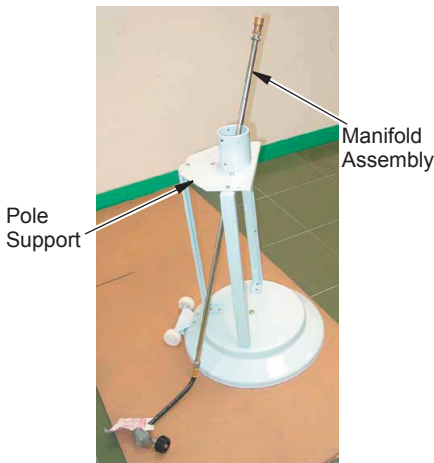

Figure 2 - Installing Manifold Assembly
- Insert manifold into pole support (see Figure 2). Insert the manifold assembly through the post by passing through the hole in the post support.